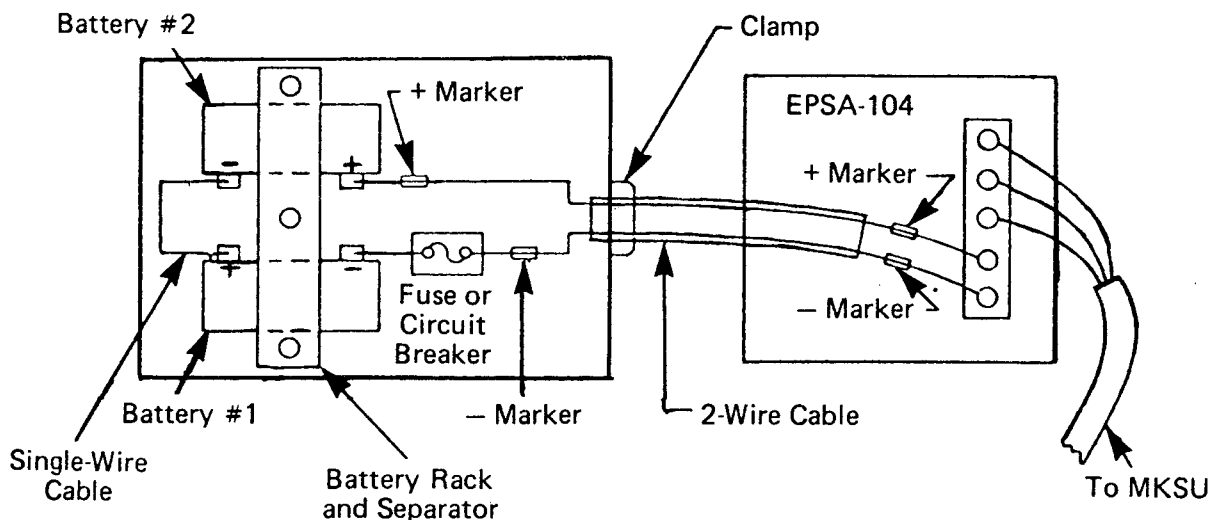

FIGURE 12—BATTERY WIRING DIAGRAM
02.49 Connect the two batteries with the single-wire cable—one end to the positive terminal on battery #1 and the other end to the negative terminal on battery #2 (Figure 12).
02.45 See Figure 12; match positive to positive and negative to negative.